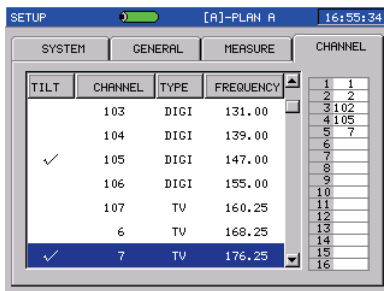

Figure 3-10-3
Turn Knob or press   to select the channels that you want to do tilt test, then press knob to confirm. Here, "√" means this channel is selected. If you want to cancel this selection, please press knob again and "√" will disappeared. The channel No. of all channels selected will be saved and displayed at the right column as Figure3-10-3.
**SETUP(F3):** When testing, if you want to change the tested channels quantity, please press SETUP soft key and enter into Figure 3-10-3 to re-select.